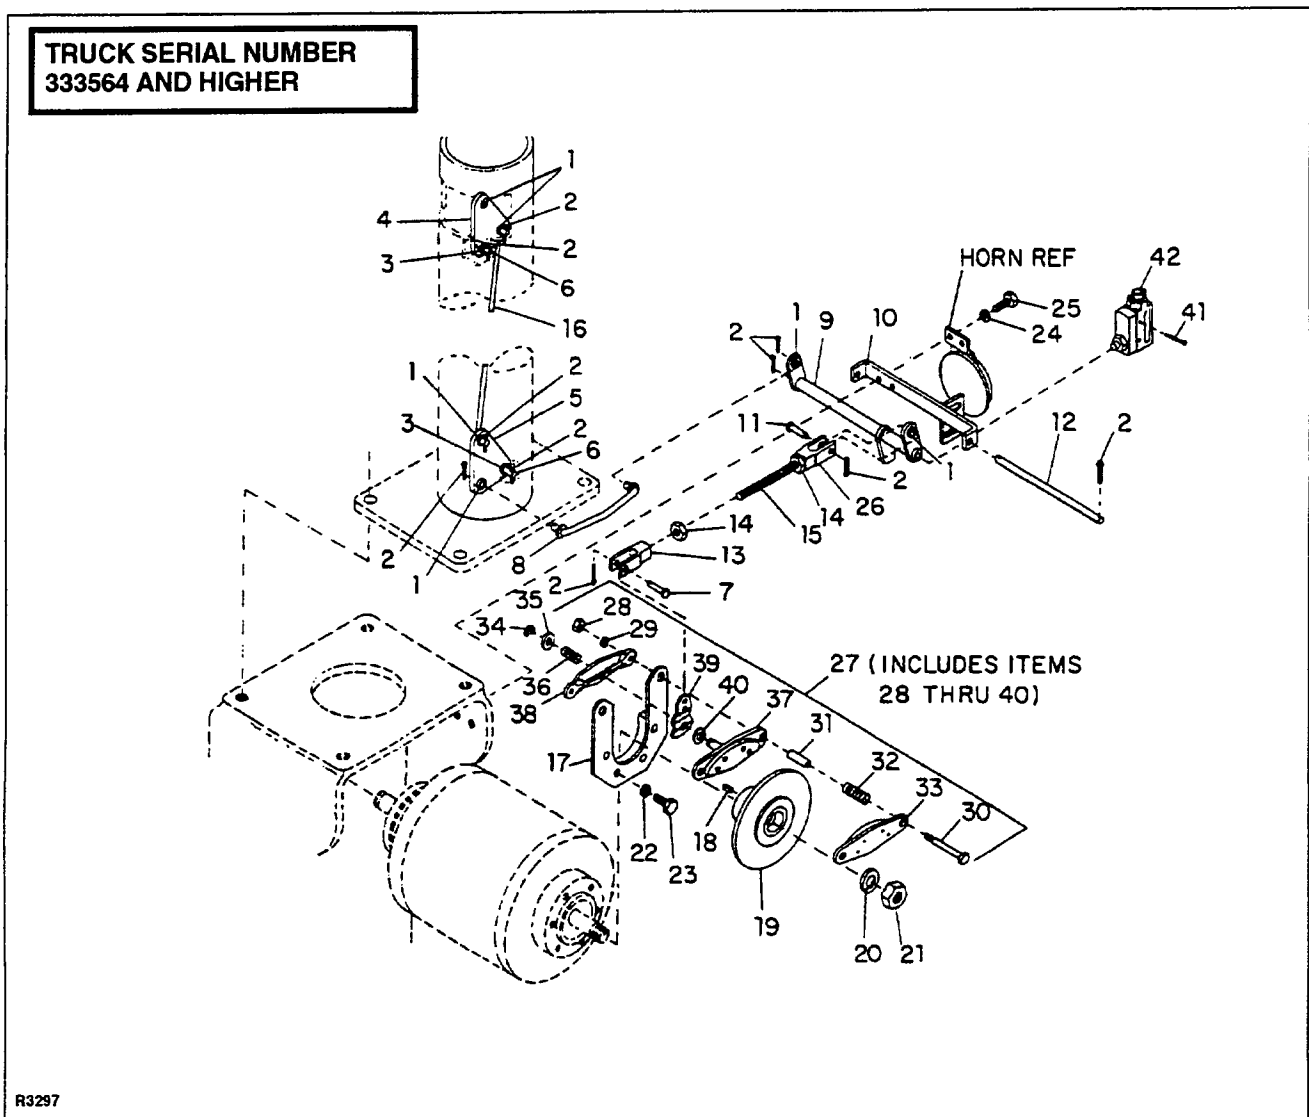

Figure 6-4. Parts Replacement for Truck Serial Numbers 333564 and Higher
7. Turn the clevis (3) to adjust the brake.
8. Connect the clevis (3) to the lever assembly with pin (2), but do not insert the cotter pin (1) at this time.
10. Disconnect the clevis (3).
13. Tighten the lock nut (4) and secure the pin (2) with the cotter pin (1).
15. Check that the brake lever has activated the dead-man brake switch (42 Figure 6-4) and open the control circuits. If the switch is not activated, go to step 16. If it is activated, go to step 18.
16. Adjust the position of the dead-man switch by loosening the screws (41) attaching the switch to the
5. Remove the cotter pin (2, Figure 6-4) and link pin (7), then swing the clevis (13) up out of the way.
6. Remove two nuts (28) and lockwasher (29).
7. Carefully pull the bolts (30) just enough to clear the mounting plate weldment (17) while you hold together the remaining parts of the disc brake assembly (27), then remove the assembly.
8. Remove the bolts (30), spacers (31), springs (32), and brake pad (33).
9. Remove the retaining C-ring (34), washer (35), spring (36), bracket (38), lever (39), and washer (40) from the brake pad (37).
11. Assemble the washer (40), lever (39), bracket (38), spring (36), washer (35), and C-ring (34) to the brake pad (37).
12. Assemble the brake pad (33), spacers (31), and springs (32) to the two bolts (30).
13. Slip the parts assembled in step 11 onto the mounting plate weldment (17) and hold them so the bolt holes are aligned.
14. Insert the bolts (30) through pad (37) and bracket (17), so the threaded portion of the bolts passes completely through.
15. Assemble the two lock washers (29) and nuts (28) to the bolts (30).
5. Remove the cotter pin (2, Figure 6-4) and pin (7), then swing the clevis (13) up out of the way.
6. Remove the two nuts (28) and lock washers (29).
8. Remove the nut (21) and lock washer (20).
9. Remove the disc assembly (19).
10. Remove the key (18).
11. Install new disc assembly with key (18), lock washer (20) and nut (21).
12. Assemble the brake pad (33), springs (32), and spacers (31) to the two bolts (30).
13. Slip brake pad (37) with attached parts onto the mounting plate weldment (17) and hold it so the bolt holes are aligned.
14. Insert the bolts (30) through the pad (37) and bracket (17), so the threaded portion of the bolts passes completely through.